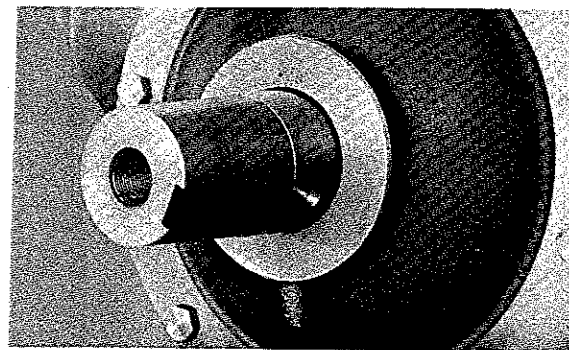

Fig. 49 Crankshaft without flywheel
- d. Remove belts or coupling and take off the flange and flywheel as shown in Figure 49.
- a) As the assembly is kept in position by the cage guide only, the valve assemblies can easily be removed by hand (Fig. 49). However, when carbonized oil and slag adhere to them remove carefully, being careful not to allow any to drop into the cylinder. Also do not drop anything into the cylinder sleeves as this may scratch the linings.